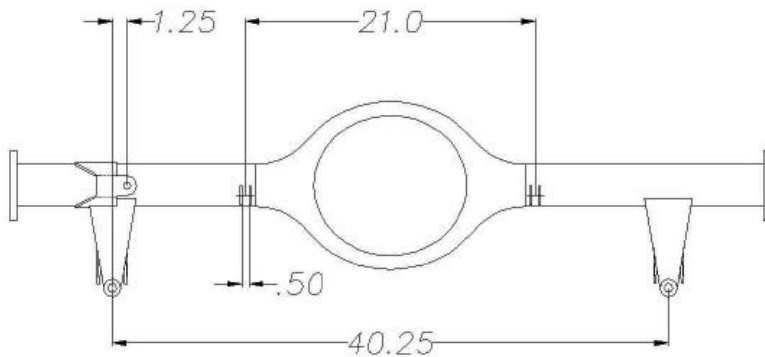
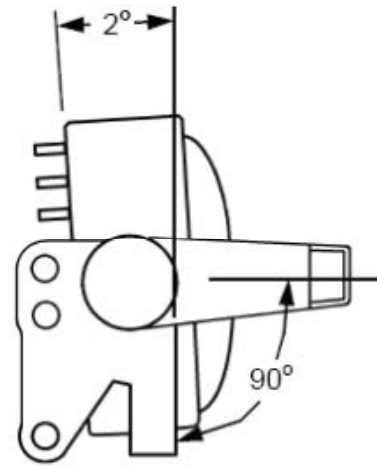

Figure 4. Axle brackets (Front View)
Figure 5. Axle Brackets (Driver Side View)
- 6) If you purchased a complete rear axle housing with the brackets already installed, you can install it now. If you are installing the brackets on your own housing, the coil-over brackets are located 40-1/4" apart. They are centered equal distance from the outer ends of the housing, not from the center of the third member or pinion yoke, see Figure 4. Sway bar tabs are located 21" apart with a 1/2" gap and 5/8" below axle centerline. The Panhard bar bracket is located on the left coil-over bracket locating against the coil-over bracket, positioned at 90° as shown in Figure 5.
- 9) With 1 upper link disconnected, adjust the lower links evenly to the proper wheelbase, and use the upper bar to fine tune the pinion angle to 2° down, refer to Figure 5. Once set, adjust the second upper bar to the proper length, swing in place – the bolt should slide right in. Double check all angles, then tighten down all bolts and nuts, including jam nuts.